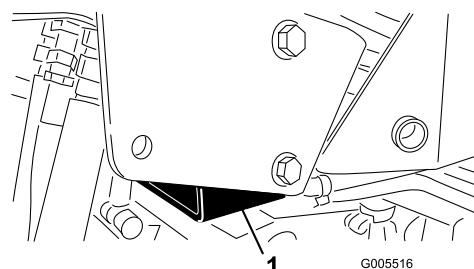

Figure 38
- Right side-under the ROPS (Roll Over Protection System) support bracket (Figure 38)